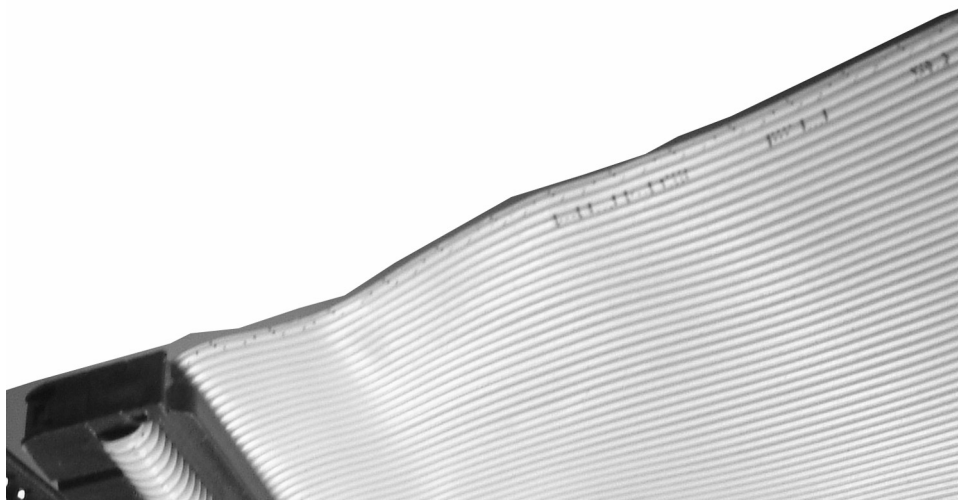

Figure 7-8: Striped edge of ribbon cable
4. Attach the SCSI ribbon cable to the hard disk drive and the SCSI host adapter, with the striped edge of the ribbon cable on pin 1 of the plugs (Figure 7-8).